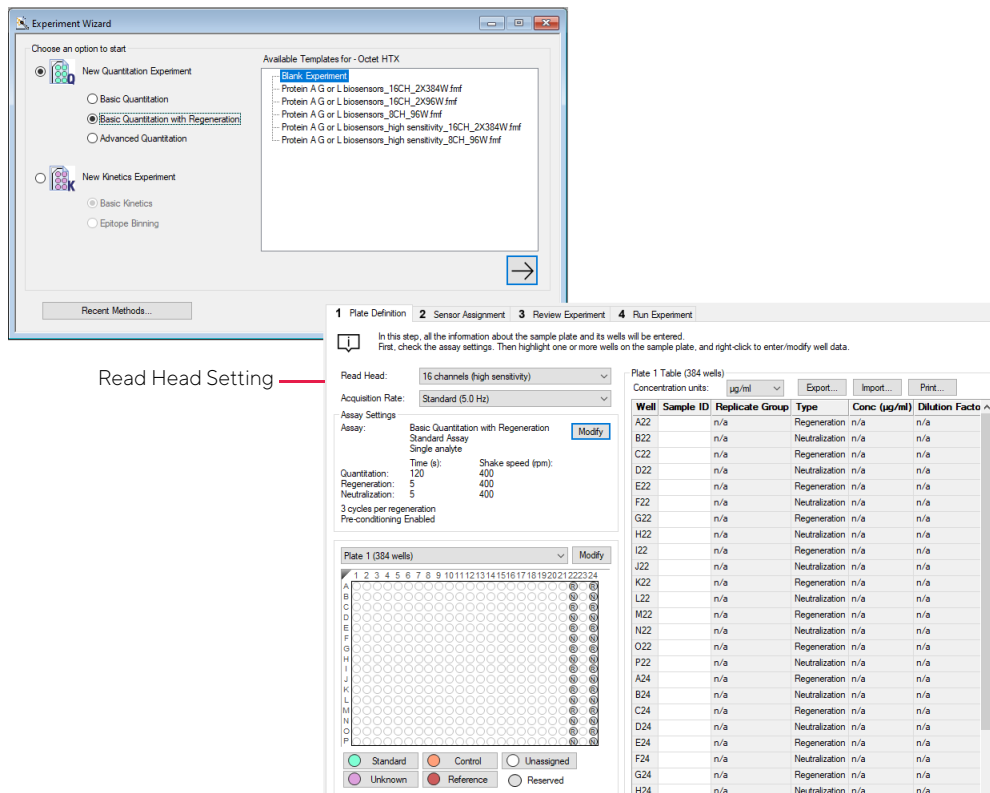

Figure 7-1: Selecting an Experiment Type in the Experiment Wizard (for Octet® RH16)
2. In the **Experiment Wizard**, select **New Quantitation Experiment** (see Figure 7-1, left).
The **Experiment** window appears (Figure 7-1, right).
The Octet[®] read head contains the collection optics. If the read head is set to 8 channels, one column of 8 biosensors interrogate 8 plate wells. If the read head is set to 16 channels, two columns of biosensors interrogate 16 wells in a column format. (Figure 7-1).